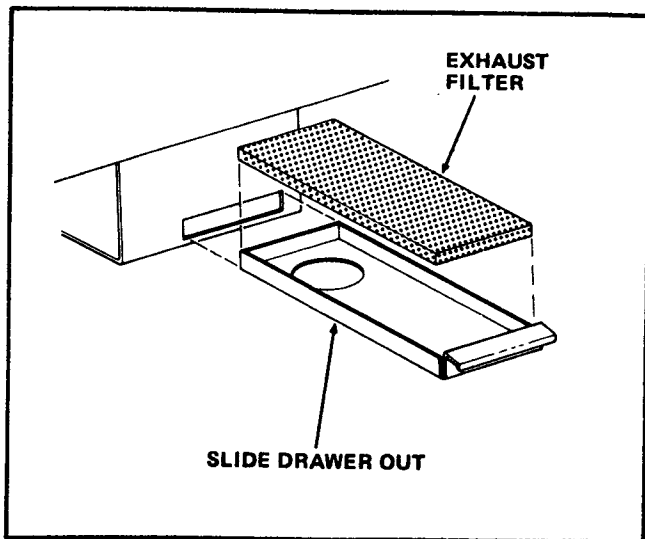

Figure 3-24. Exhaust Filter Removal
1. Pull out the Exhaust Filter drawer. See Figure 3-24.